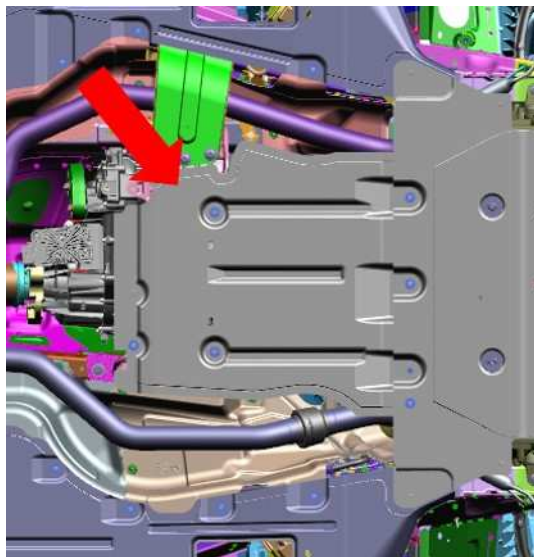

Fig. 4
1. Remove the transmission belly pan (Fig. 4) . Refer to the detailed service procedures available in DealerConnect> Service Library under: Service Info> 13 Frame and Bumpers / Under Body Protection / Belly Pan / Removal.
12. Install the transmission belly pan (Fig. 4) . Refer to the detailed service procedures available in DealerConnect> Service Library under: Service Info> 13 Frame and Bumpers / Under Body Protection / Belly Pan / Installation.